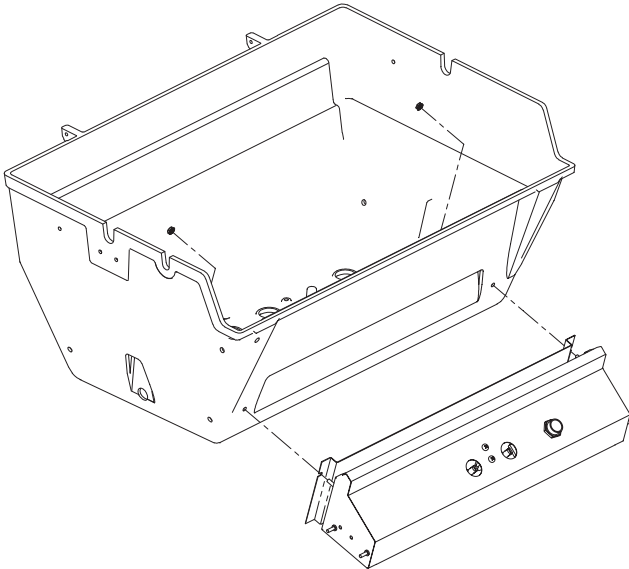

Figure 6
Attach radiation shield control panel assembly to grill bottom with two (2) 10-24 keps nuts. **See Figure 6.**